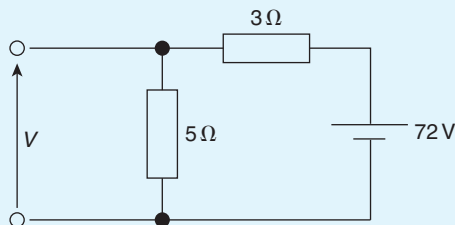

Figure 5.11
4. Calculate the value of voltage V in Fig. 5.11